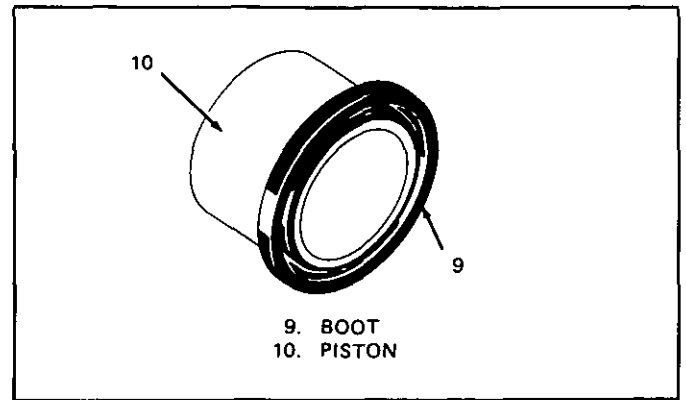
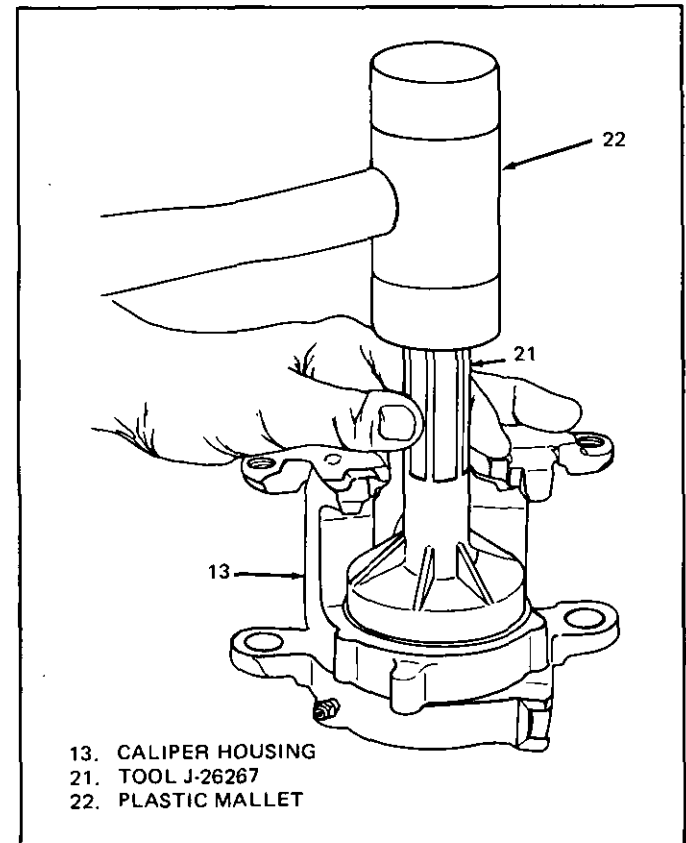

Figure 14 Installing Boot Onto Piston
Figure 15 Seating Boot Into Housing
1. Bleeder valve (12) to 12 N·m (110 in. lb.)
2. Lubricate new seals (9 and 11) and caliper housing (13) bore with brake fluid
- Piston seal (11) into caliper bore groove (20)
- Boot (9) onto piston (10) as shown in Figure 14
3. Piston (10) into bore of caliper and push to bottom of bore
4. Boot (9) in caliper housing counterbore and seat as shown in Figure 15 using J-26267